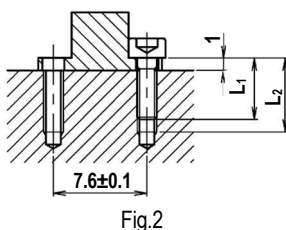

Fig.2
- To install, use M1.6 or No.0-80UNF screws (longer than 5mm). Referring to Fig.2, drill holes in the measuring object. The hole's effective screw depth should be longer than the mount screw, $L_1 \leq L_2$. The distance between the holes should be 7.6 ± 0.1 mm.